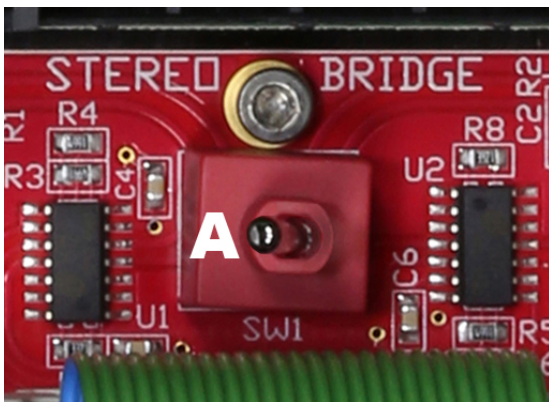

Figure 8: SW1 Dip Switch in Stereo Position
5. For **BRIDGE MODE** move switch to position B. (Figure 8)